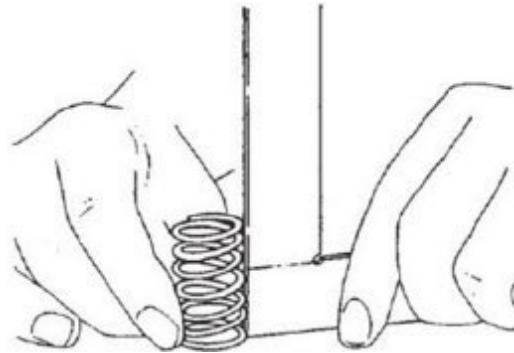

Figure 63. Valve Spring Squareness Measurement
4. Use a flat surface and a square to check each spring for squareness (Figure 63). See *Valve Spring specification chart* for the service limit.